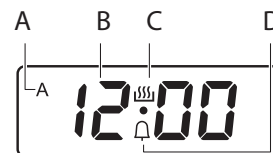

Figure 6: Clock Display Functions
4. When the time ends, the function's indicator on the display will start flashing, the Timer Activate Indicator icon (C in figure 6) will go off, and a signal will sound for two minutes. Press any button to stop the signal.